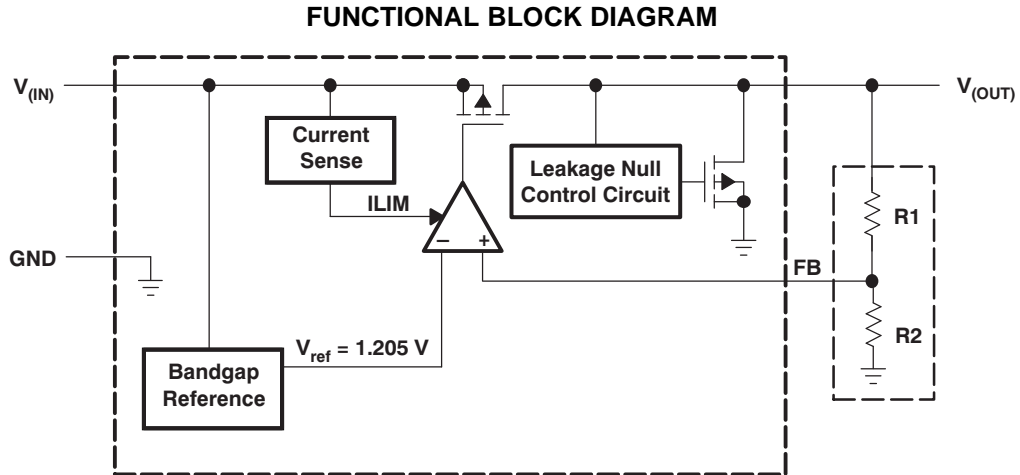

Figure 1. Functional Block Diagram
(1) Minimum  $V_{IN} = V_{OUT} + V_{DO}$  or the value shown for *Input voltage* in this table, whichever is greater.
(2) See Figure 1. The TPS71501 employs a leakage null control circuit. This circuit is active only if output current is less than pass FET leakage current. The circuit is typically active when output load is less than  $5\text{ }\mu\text{A}$ ,  $V_{IN}$  is greater than  $18\text{ V}$ , and die temperature is greater than  $100^\circ\text{C}$ .